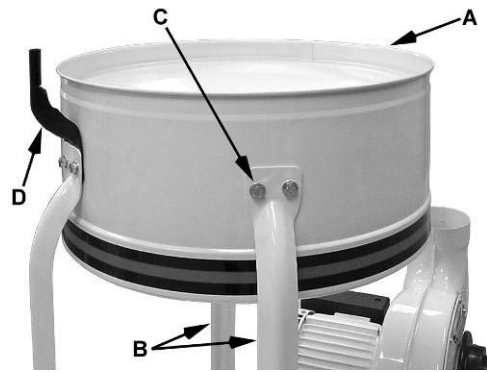
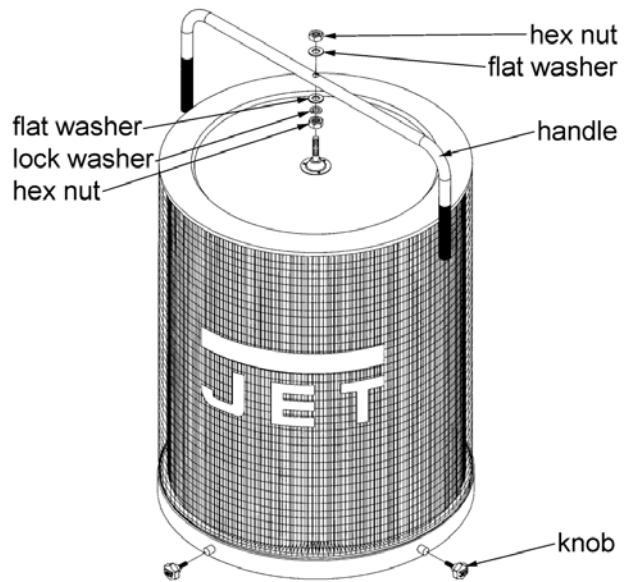

Figure 5
Figure 10
6. Install the *housing* (A, Fig. 5) to two *support legs* (B, Fig. 5) using four M8 x 16 hex cap bolts, eight M8 flat washers, and four M8 hex nuts (C, Fig. 5). Be sure hose opening faces fan housing.
**Note:** For models DC-1200VX-BK1 or DC-1200VX-BK3 only – Before attaching third support bracket, place the *hanger bracket* (D, Fig.5) between the support bracket and the housing.
1. Mount the handle onto the canister filter with two M10 hex nuts, two M10 flat washers, and a M10 lock washer (Figure 10).
2. Mount the canister filter on top of the *collector housing* (A, Fig. 5) and tighten the knobs on the *canister filter* (Figure 10).